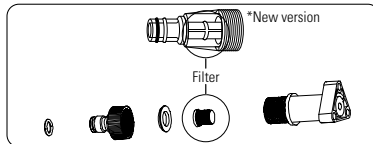

FIGURE 8.8
Check also the water inlet filter periodically and perform cleaning, if necessary. (Figure 8.8)
4. Connect the water inlet hose to the pressure washer (Figure 8.8)